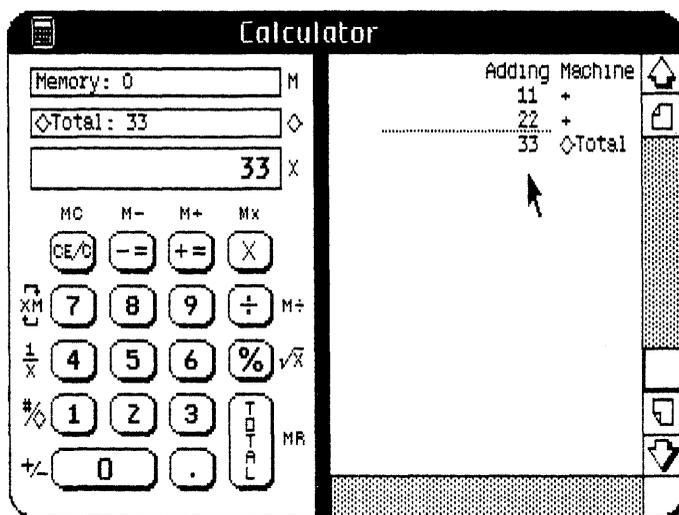

Figure 7. Adding Machine — Example 1
- ▶ Click  $\#/\emptyset$ ; see Figure 7 now.
In Figure 7, the subtotal 33 has been stored in the calculation register (labeled  $\diamond$ ), displayed in the X register, and shown on the transaction tape. The dotted underscore indicates that a subtotal was taken; the actual value of the subtotal is labeled  $\diamond$  Total.